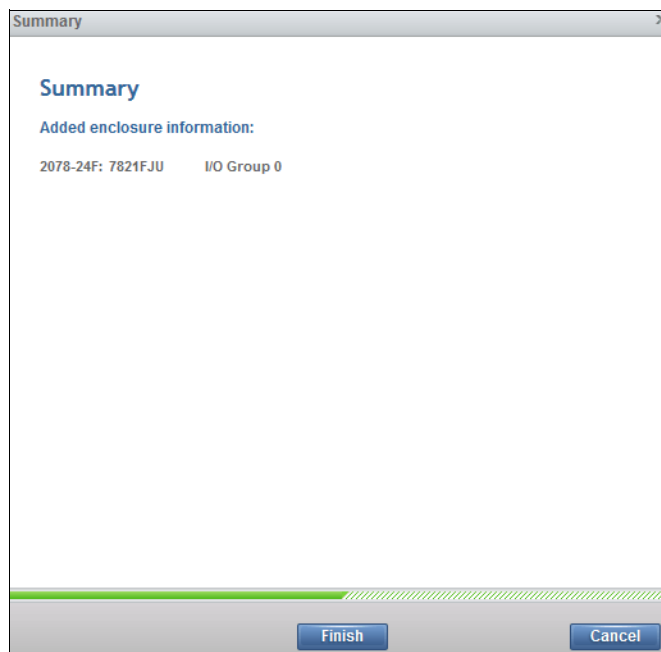

Figure 2-46 Added enclosure summary
4. The new expansion enclosure is added to the system as shown in Figure 2-46. Click **Finish** to complete the operation.